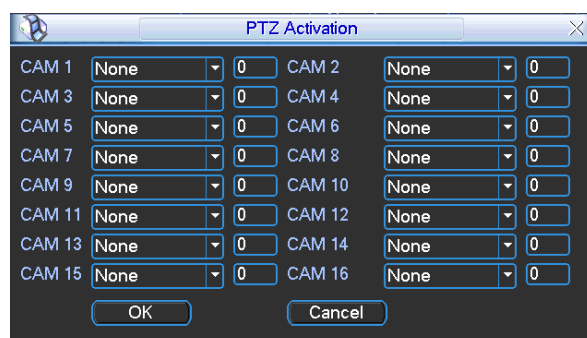

Figure 4-28
- PTZ activation: Here you can set PTZ movement when alarm occurs. Such as go to preset, tour& pattern when there is an alarm. Click “select” button, you can see an interface is shown as in Figure 4-28.